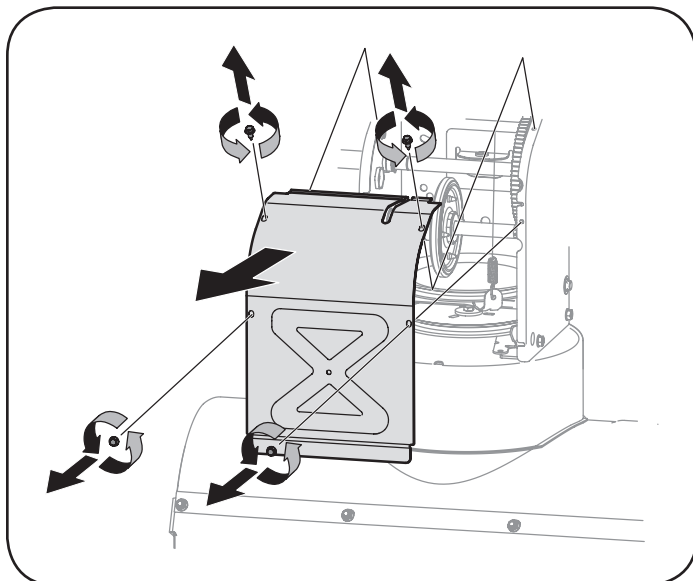

Figure 27
5. Remove the frame cover from the underside of the snow thrower by removing four self-tapping screws which secure it. See Figure 27.
4. Remove the frame cover from the underside of the snow thrower by removing the self-tapping screws which secure it. See Figure 27.